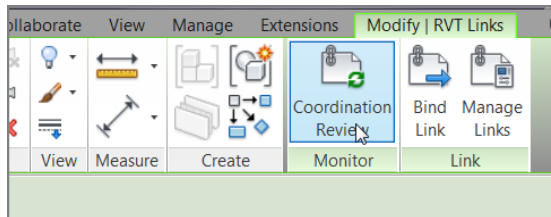

FIGURE 20.14: Click the Coordination Review button.
21. To check whether there are any more issues, select the structural link, and click the Coordination Review button on the Modify | RVT Links tab, as shown in Figure 20.14.